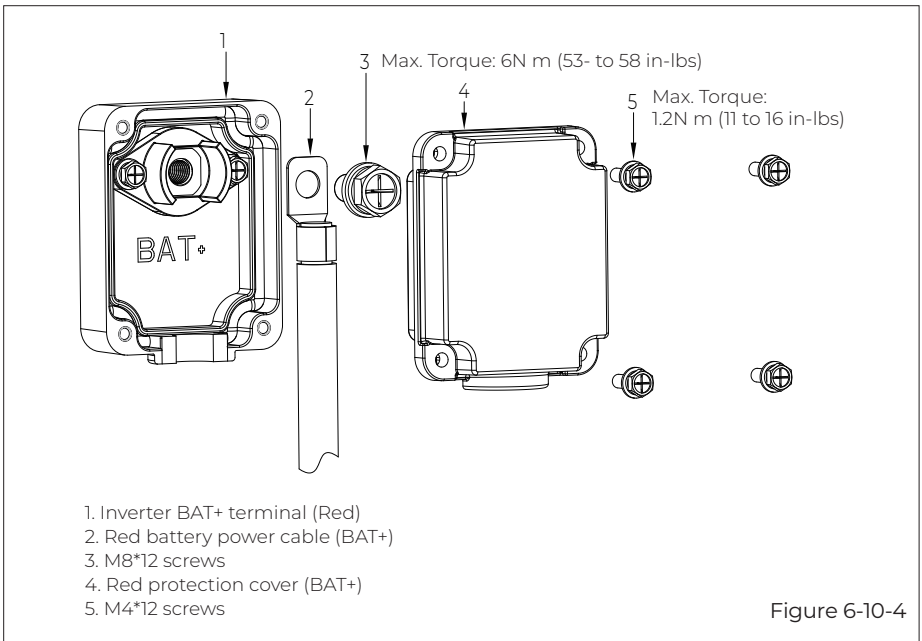

Figure 6-10-4
- Repeat to connect the red battery power cable. See Figure 6-10-4.